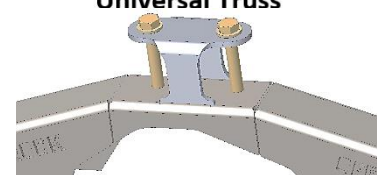

Figure 14
58. Weld upper control arm bracket to truss (see figure 14). Box Truss: Be sure holes are aligned in the bracket/truss and leave 2-5/8" plus some wiggle room for mounting control arms. Plate Truss: Using the bracket as a template: place the bracket flush to front edge of truss and directly over the axle centerline, then mark the location of holes to be drilled. Drill the two holes starting with a small drill size and ending with 9/16" Use plenty of oil. Be sure bolt holes are aligned in the bracket/truss and leave 2-5/8" plus some wiggle room for mounting control arms before welding.
59. Assemble UCA mounting bolts and nuts from hardware kit 150 onto truss (see figure 14 & 15). Snug bolts and weld nuts to bottom of truss.